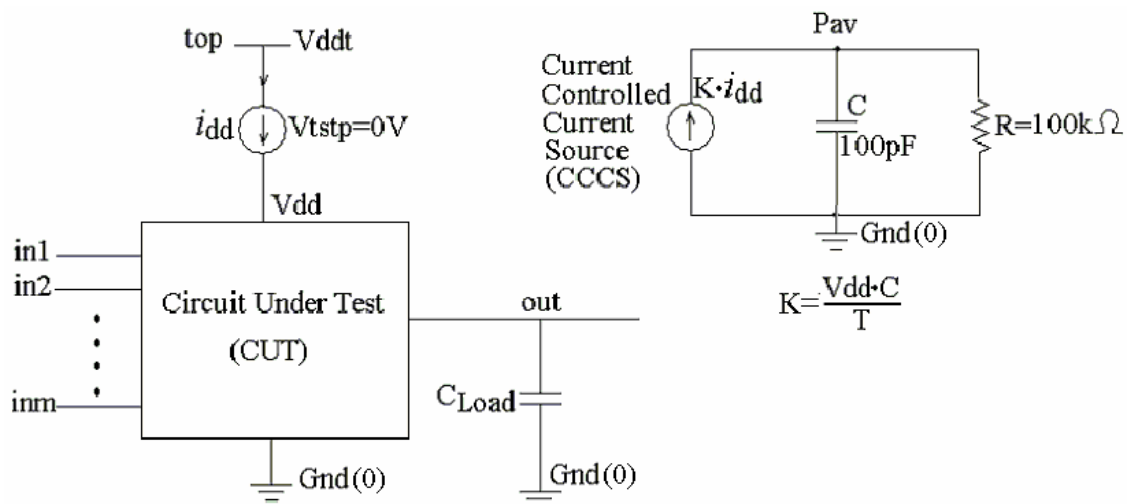

Figure 9. Circuit for power analysis of CMOS circuit
5). The above is the netlist of the circuit. You still need to define the auxiliary circuit for power analysis, the SPICE parameters, input voltage signals, power rails (Vdd and Gnd), and tell Spice what simulations you need to perform. The circuit for power analysis simulation is shown in Figure 9, as we discussed in class.